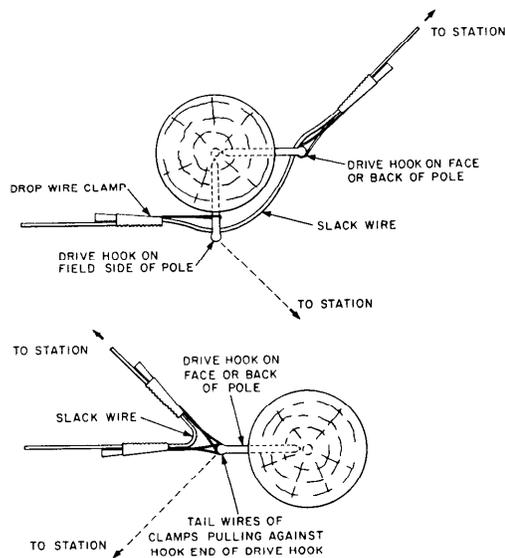

Fig. 7 - Distributing Wires From Pole Without Terminal
3.08 Distribute drop wires as illustrated in Fig. 7.